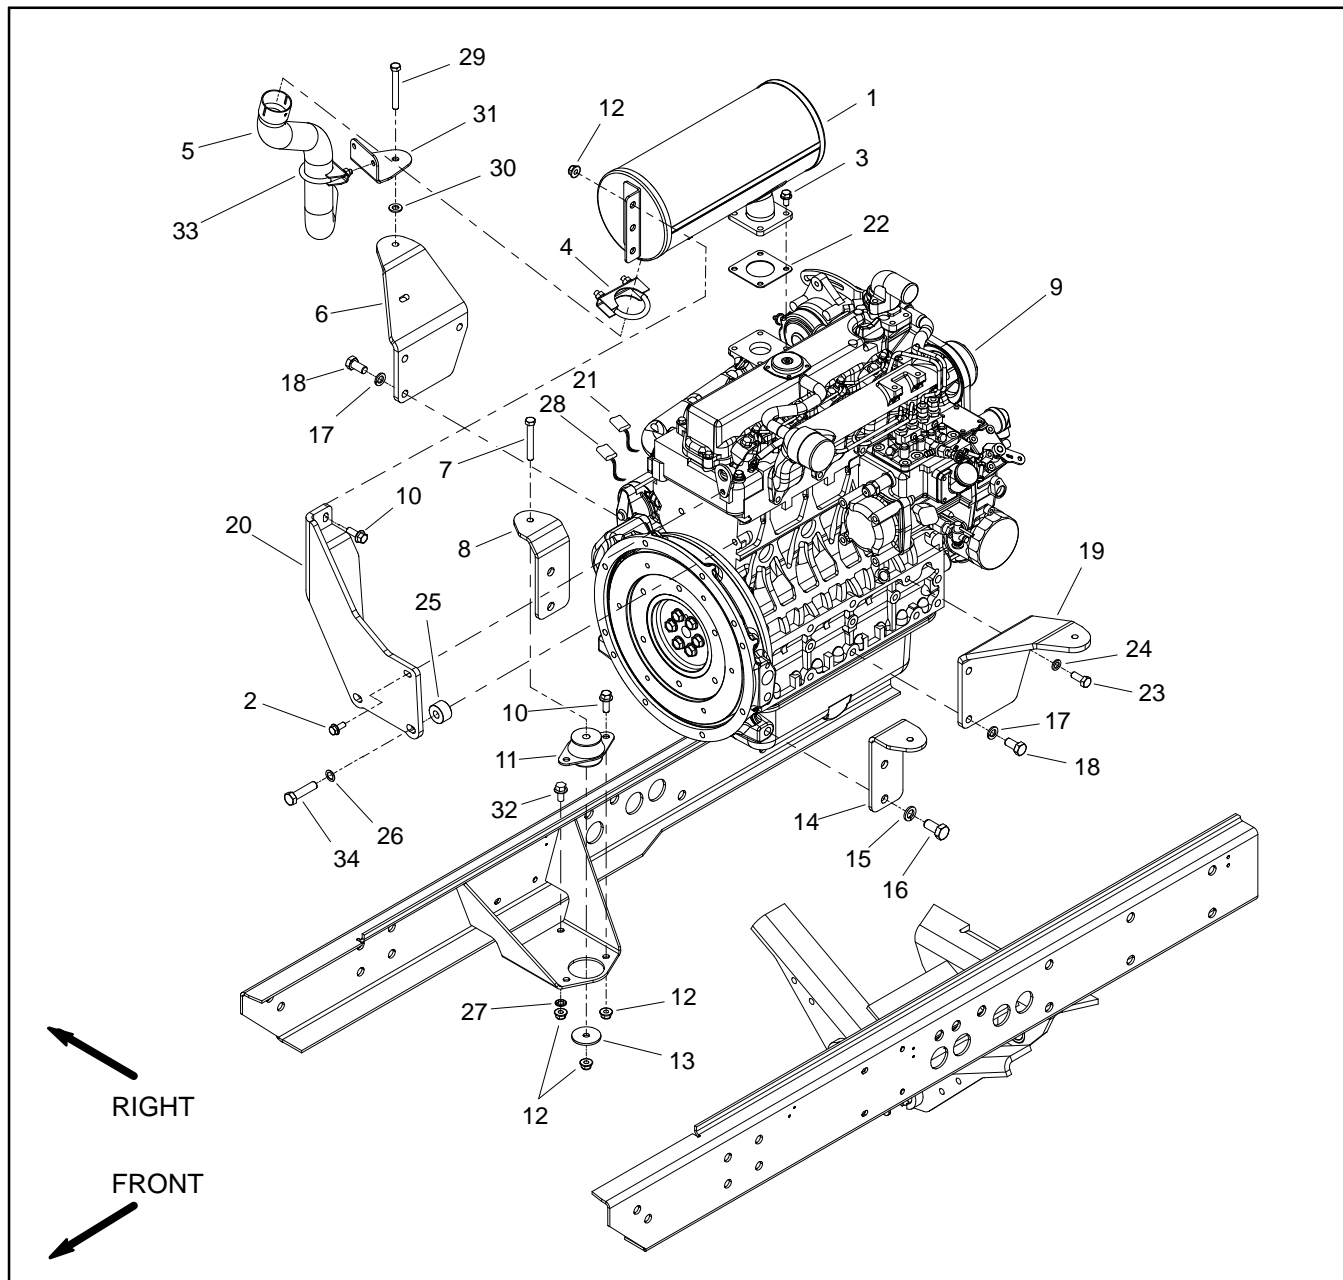

Figure 8
## Engine Removal (Fig. 8)
17. If necessary, remove engine mounts from the engine using Figure 8 as a guide.
### Engine Installation (Fig. 8)
3. If removed, install engine mounts to the engine using Figure 8 as a guide.